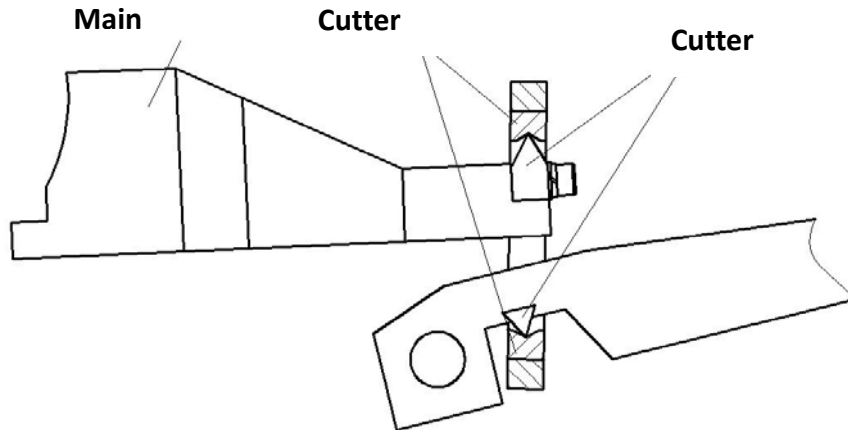

Fig.4
3.3.2 Observe the cutter head group behind the mask whether the cutter head is falling into the cutter groove. If the cutter head is not in the cutter groove, please press the main lever and suit the cutter groove on the cutter head (see Fig.4). (This generally does not occur; it happens only in the strong vibration).